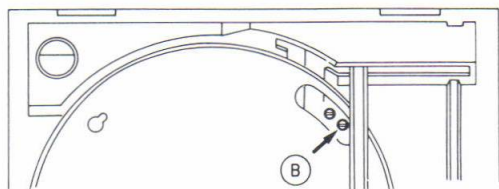

Fig. 25
If the lead-in is off, turn the unit plate's eccentric alignment pin (B) to adjust. (Figure 25)